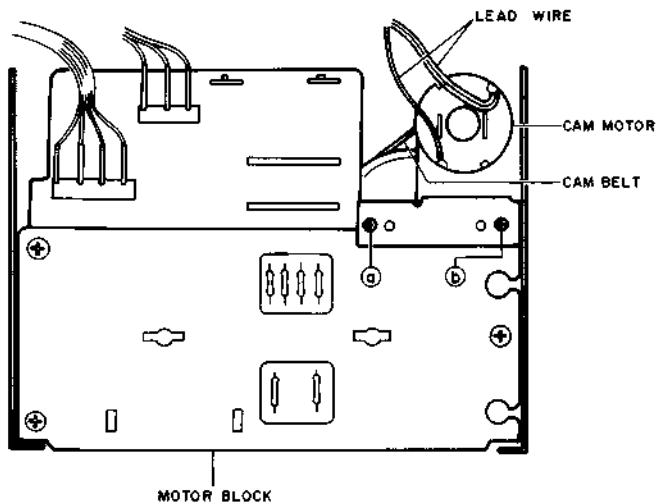

Fig. 4-7
- 3) Remove cam motor base screws **(a)** and **(b)** from the motor block. (See Fig. 4-7.)